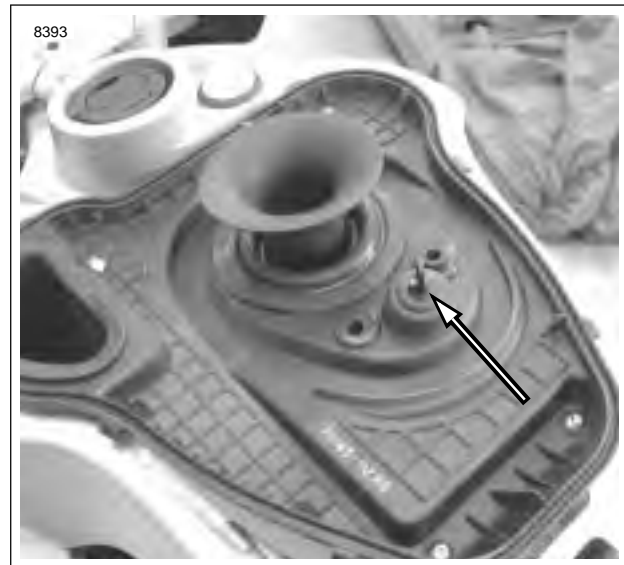

Figure 4-78. Intake Air Temperature Sensor Installed
See Figure 4-78. The intake air temperature sensor (IAT Sensor), located on the airbox base plate, measures the air temperature allowing the ECM to calculate the density of the air entering the manifold. The IAT is a thermistor type sensor.
2. See Figure 4-78. Remove airbox cover and filter. Remove fasteners securing base. See 4.45 AIRBOX.